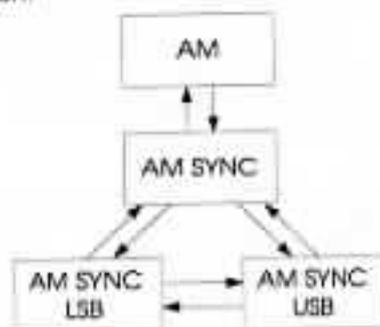

Figure 5: SYNC Mode Selection
- (1) (Note: The AM sync mode is selected by pressing the AM/SYNC button once while in the AM mode. Pressing it again will return the unit to the AM mode. See figure 5.)
- (1) Once the unit is in the AM SYNC mode, AM SYNC LSB is selected by pressing LSB and AM SYNC USB is selected by pressing USB. Pressing AM SYNC once returns the unit to AM SYNC (double sideband) and pressing AM SYNC again returns the unit to AM mode. (See figure 5.)